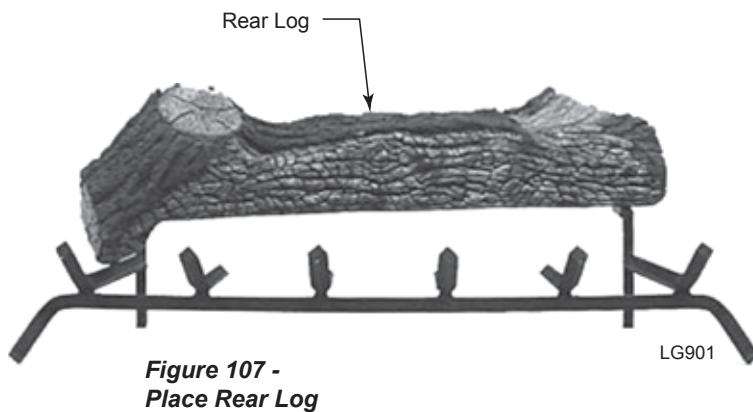

**Figure 107 -
2. Place Rear Log #1 on back of grate. Left side should fit on grate in front of rear stand. Right side goes on the rear stand of grate. *Figure 107*